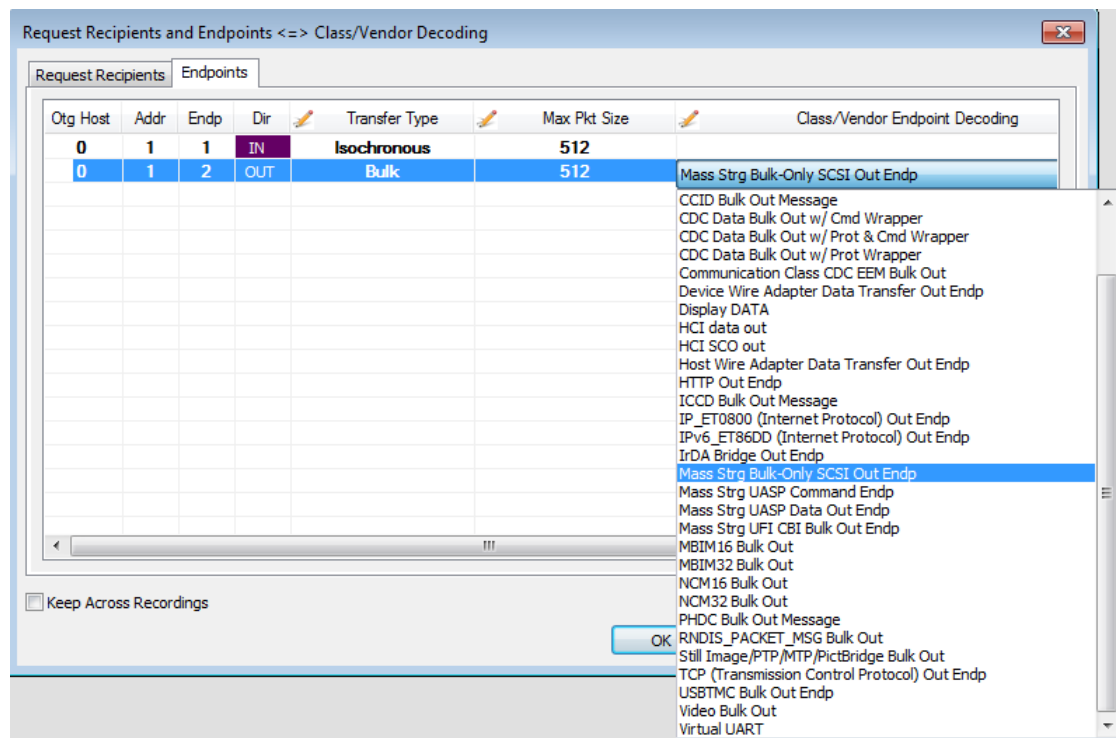

Figure 8.5: Class/Vendor Endpoint Decoding Drop-down Menu.
8. Display the **Class/Vendor Endpoint Decoding** drop-down menu (see Figure 8.5 on page 205):